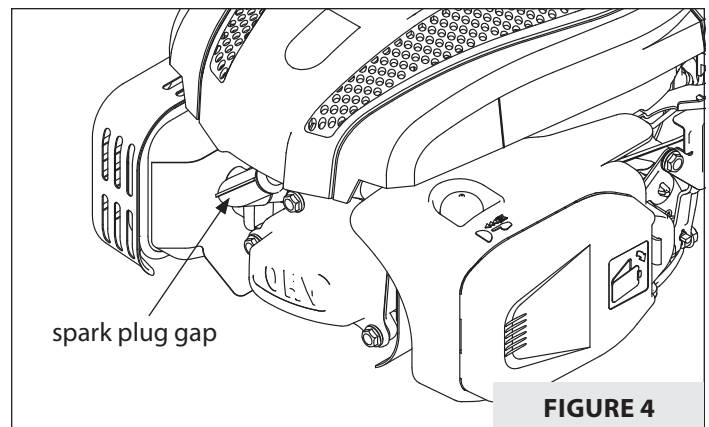

FIGURE 4
1. Detach spark plug wire and move away from spark plug. If the engine uses a battery, disconnect at negative terminal. **SEE FIGURE 4.**
The recommended spark plug is a DK7RTC. The spark plug is located to the left of the valve cover. **SEE FIGURE 4.**